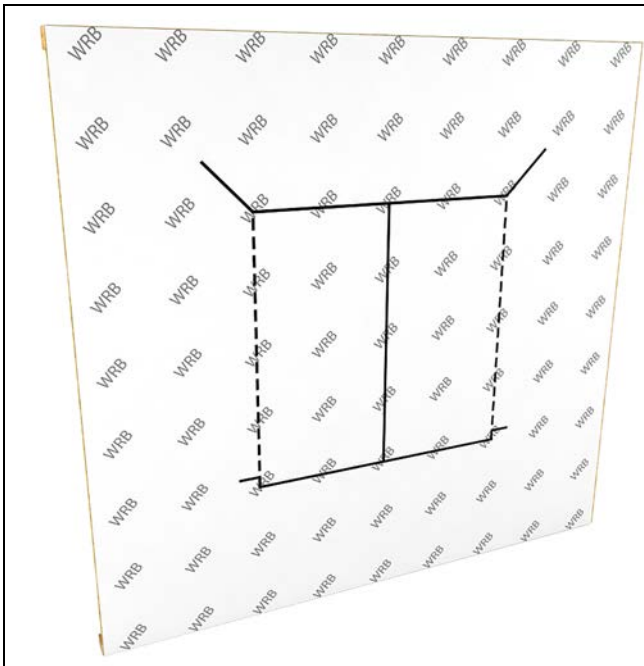

Figure 10
1. Make horizontal cuts to the Weather Resistive Barrier (WRB) across the top and bottom of the Rough Opening. Make a vertical cut down the center of the RO. then make 45 degree cuts away from the corners of the top of the RO. See Figure 10.